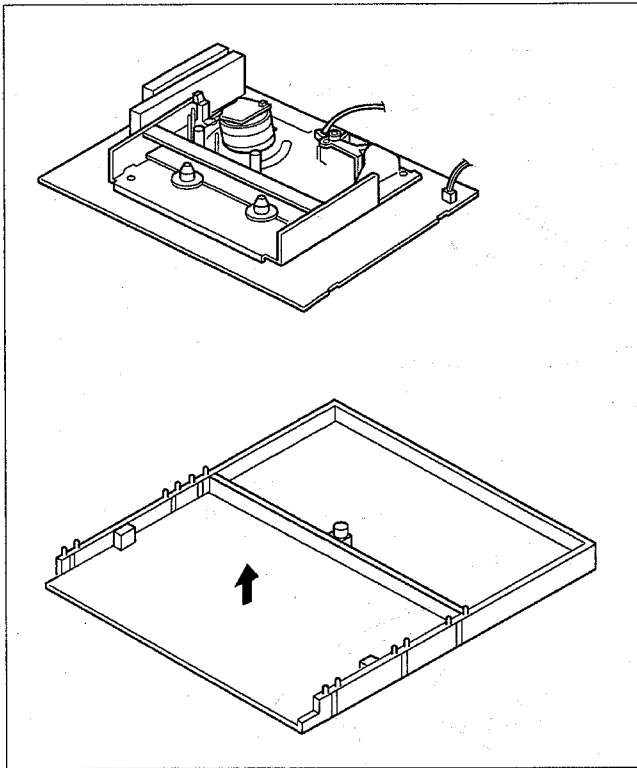

Fig. 1-4-2
- (6) Remove the 2 hooks on the Main board, and remove the Main board and Main deck assemblies together. At this stage be careful of the power cord and prongs of the jacks on the front side. (See Fig. 1-4-2.)
- When performing diagnostics of the tape playback or recording condition in the "SERVICE POSITION", enter the desired mode before turning the set upside down, and do not change the mode during diagnostics while the set is placed upside down. If you want to switch the mode, turn the set to the normal position (the status shown in Fig. 1-4-2).